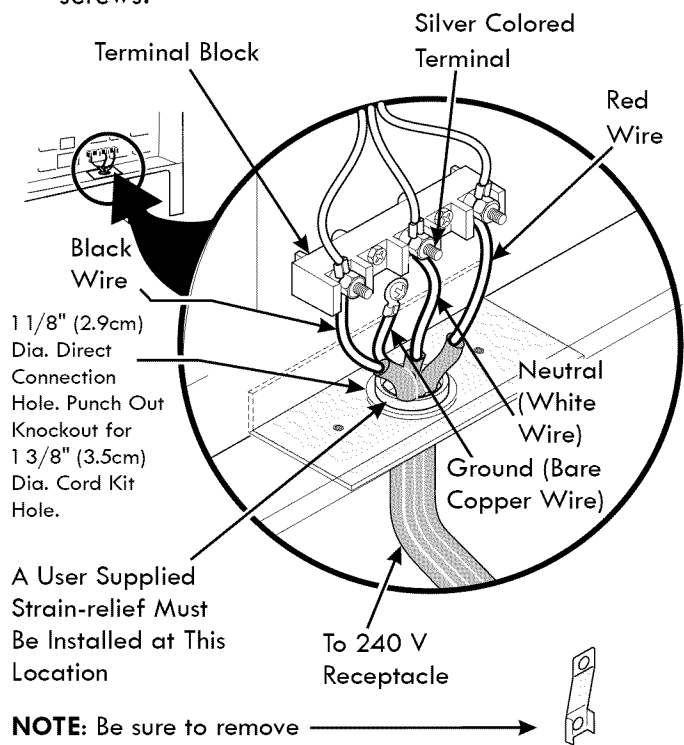

Figure 9
NOTE: Electric slide-in range is shipped from factory with 1 1/8" (2.9 cm) dia. hole as shown on figure 9. If a larger hole is required, punch out the knockout.
Where local codes does NOT permit connection of the frame grounding conductor to the neutral wire of the copper power supply cord (see Figure 9):
3. Using the nuts supplied with the literature package, connect the ground wire (green) of the copper power supply cord to the frame of the appliance with the ground screw, using the hole in the frame where the ground strap was removed (see Figure 9).
If the appliance is connected directly to the circuit breaker, fuse box or junction box, use flexible, armored or nonmetallic sheathed copper cable (with grounding wire). Supply a U.L. listed strain-relief at each end of the cable. At the appliance end, the cable goes through the Direct Connection Hole (see Figure 9) on the Cord Mounting Plate. Wire sizes (**copper wire only**) and connections must conform to the rating of the appliance.
2. Follow instructions on previous page for Four Conductor Wire Connection to Range (Fig. 9).